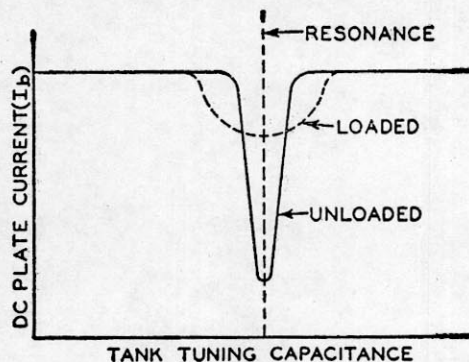

Fig. 50
(1) Make sure that all power to the equipment is off.
(2) Disconnect all positive plate, screen-grid, and suppressor-grid supply leads from the amplifier and from all following stages.
(3) If variable coupling is used between driver and amplifier, adjust the coupling to approximately one-half maximum.
(4) Apply only normal filament or heater voltage to the amplifier, and all normal operating voltages to the driver.
(5) Quickly tune the driver plate circuit to resonance, which is indicated by a dip in driver plate current, as shown in Fig. 50, and by maximum grid current in the amplifier stage. If the amplifier has a tuned grid circuit, this circuit should also be tuned to resonance (indicated by an increase in the amplifier grid current).
(6) Increase the coupling between driver and amplifier, being careful not to exceed the maximum permissible grid current for the amplifier tube or tubes. It should be possible to obtain full rated grid current for the amplifier stage without overloading the driver (overload being indicated by excessive driver plate current at resonance).
(7) Retune the driver plate circuit (and the amplifier grid circuit) to resonance. This procedure should always be
or the load coupling increased, the plate current of the amplifier should rise. Retune the amplifier plate tank to resonance after each change in coupling. The amplifier plate current should still dip at resonance, but its minimum value should be considerably higher than under no-load conditions, as shown by the dashed curve in Fig. 50.